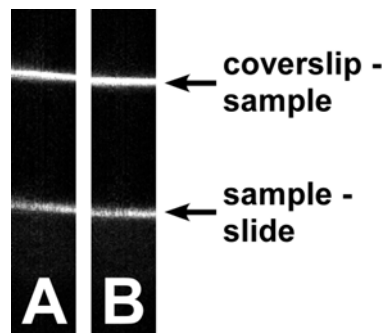

Fig. 12 Focus control with z-Piezo. Reflections on tilted (A) and even (B) coverslip
5. Check for the tilt of the coverslip. If the reflection line is horizontal the coverslip is not tilted in the x direction (Fig. 12/A). Any tilt will appear as a sloping line (Fig. 12/B). We recommend choosing a z/x ratio of 10 to make the tilt more evident in the image.